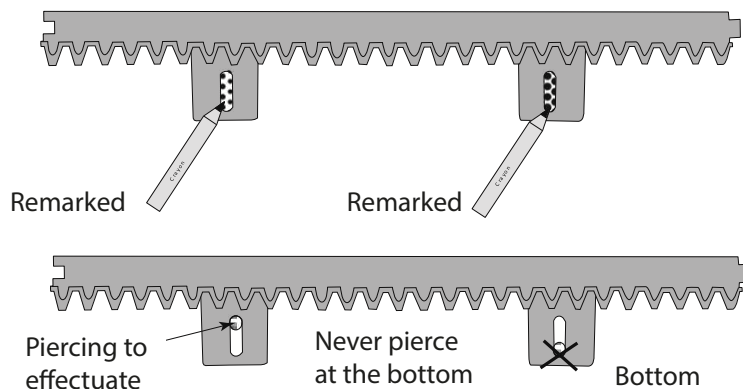

Figure 13
C) Pierce your fate on the top of all remarks of tracking. (Figure 13)